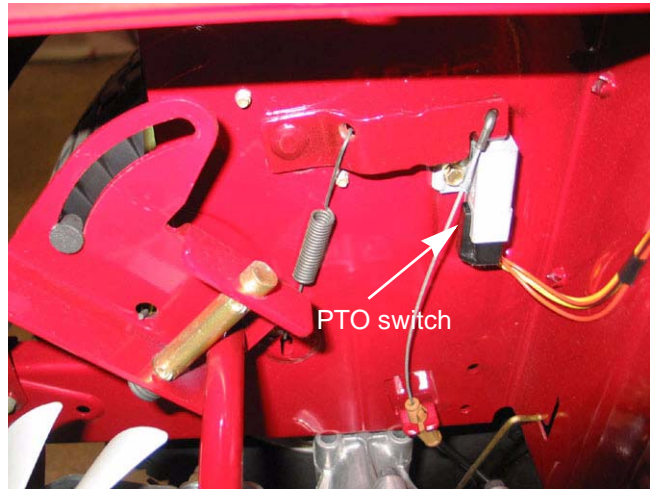

Figure 7.9
- The manual PTO switch is mounted seat box on the right hand side. See Figure 7.9.